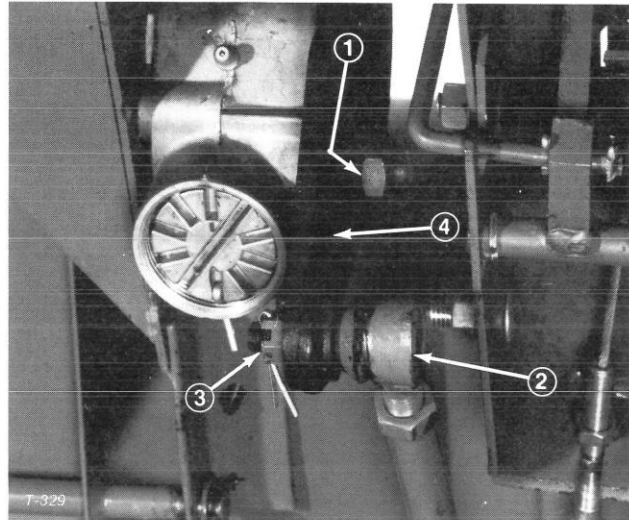

Figure 54
4. Locate jam nut and lever stud at left side of steering gear (Fig. 54). Insert screwdriver into stud slot and loosen jam nut and stud.
1. Remove cotter pin and slotted nut from tapered socket that connects steering rod and steering arm. Separate tapered socket from steering arm (Fig. 54).